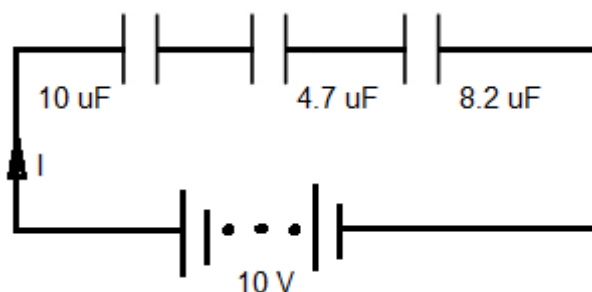

FIGURE 5.1:Capacitors connected in series
5.4 Figure 5.1 shows capacitors connected in series. Calculate the total capacitance of the circuit. (3)